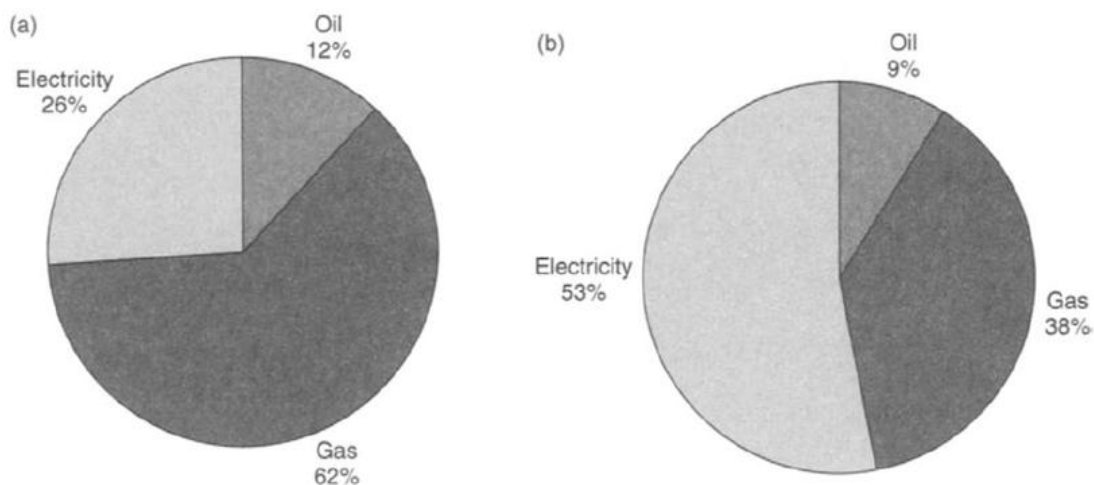

Figure 4.1 Energy consumption (a) and costs (b)
- (iv) Produce pie charts similar to those shown in Figure 4.1 to show graphically the energy and cost contributions of each energy type.